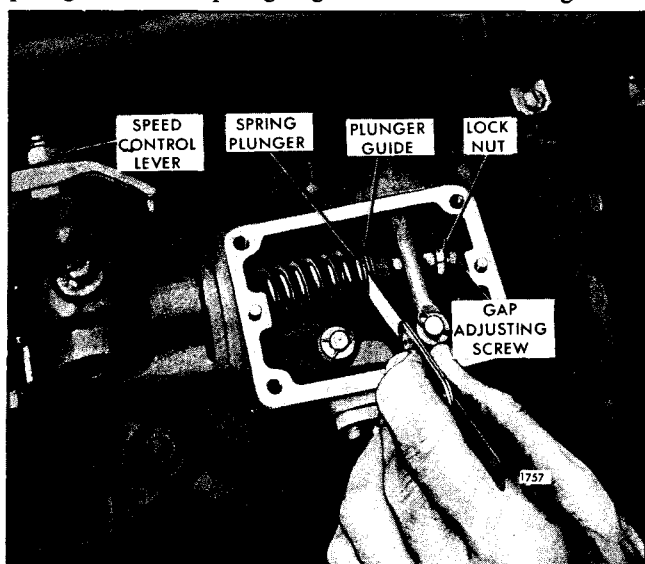

Fig. 1 - Adjusting Governor Gap
4. Place the speed control lever (Fig. 1) in the maximum speed position.
5. Insert a .006" feeler gage between the spring plunger and the plunger guide as shown in Fig. 1. If